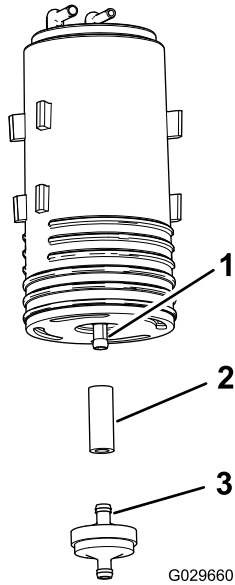

Figure 55
4. Remove the carbon-canister filter and the short section of hose from the lower fitting of the old carbon canister (Figure 55).
5. Install the hose onto the lower fitting of the new carbon canister (Figure 55).
6. Insert the fitting of a new carbon-canister filter into the hose (Figure 55).